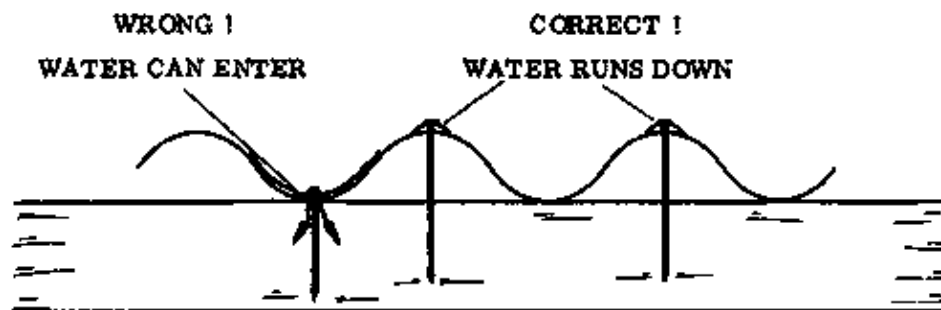

Fig. 1
– **NAILING:** When you nail corrugated roofing sheets to purlins, always nail through the top of the corrugation. This is so that rain will tend to run away from the nail (Fig. 1).